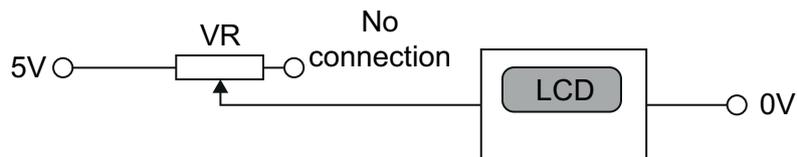

Fig. 1(a)
- 1 (a) A diagram representing a circuit used to control the backlight brightness of an LCD is shown in **Fig. 1(a)**. The brightness of the backlight is adjusted by means of a variable resistor VR.